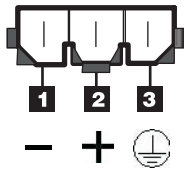

Figure 73. DC power connector - pin positions
- Connect the dc power cable to the power supply. See Figure 73 for the dc power supply connector PIN positions.